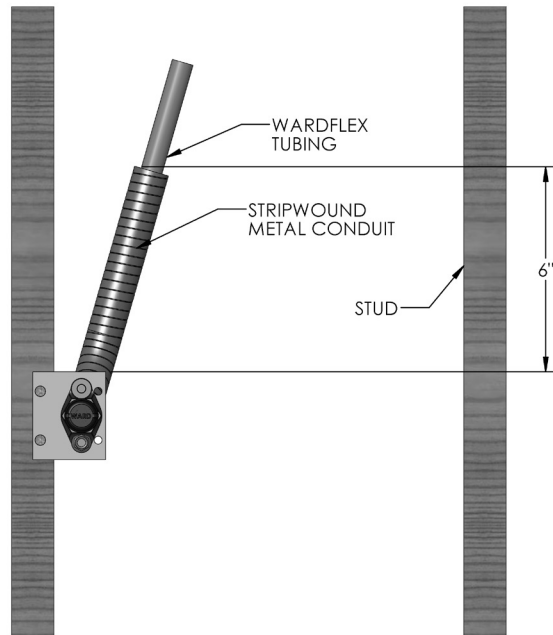

Figure 4.12
- B. Stripwound conduit shall also be used to shield tubing from puncture threats when WARDFlex®/WARDFlex®MAX is installed in a concealed location where it cannot be displaced a minimum 3" from a potential puncture threat or the distance between supports is less than 24 inches. See Figure 4.12.